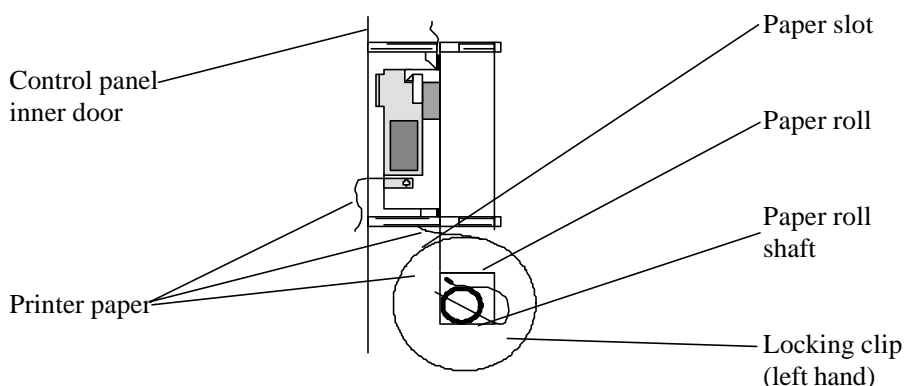

Fig. 3: Side view of the optional printer located at the rear side of the front door.
- B: Remove the empty roll by releasing the locking clip on the right-hand side of the paper roll shaft, and pull the shaft out to the other side. (See fig. 3).
- C: Let the free end of the new paper roll point downwards. Bend it and guide it into the printer paper slot in the lower end of the printer. (See fig. 3).